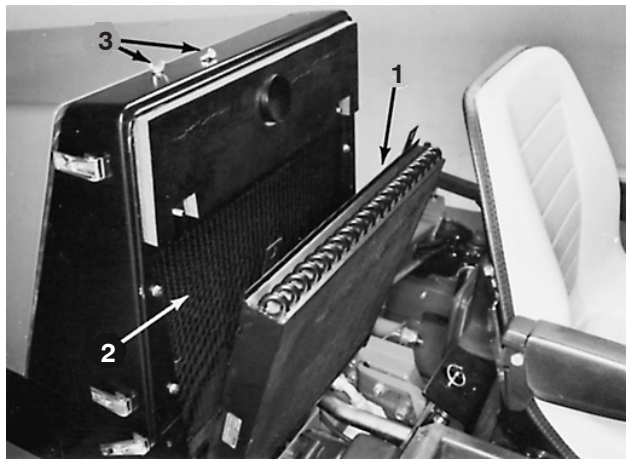

Figure 44
- C. Remove wing nuts securing top of oil cooler to upper radiator support and pivot top of oil cooler away from radiator (Fig. 44).